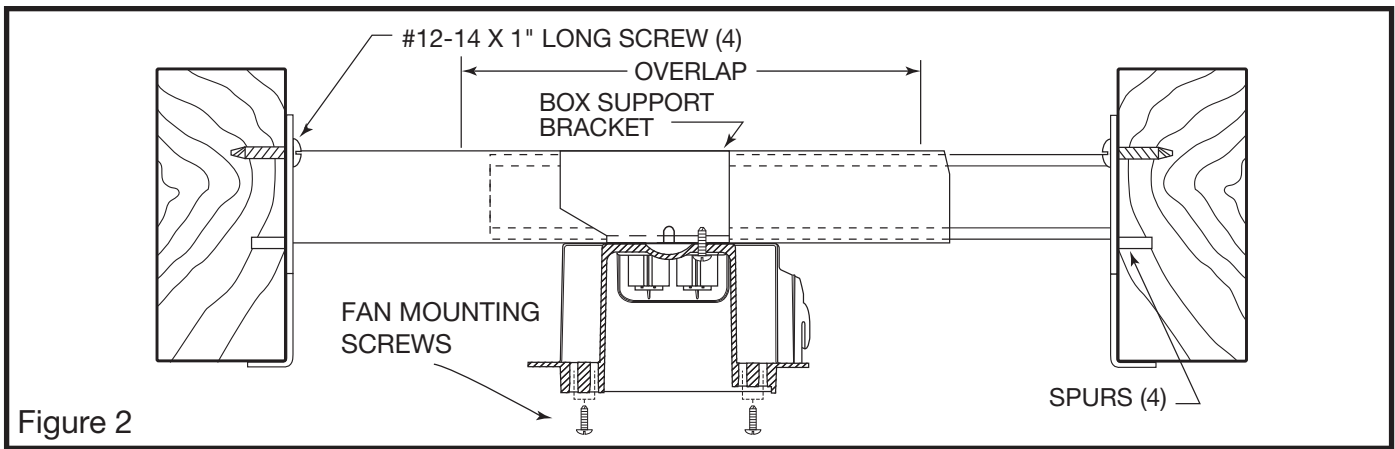

Figure 2
3. Using the holes in the end plates of the hanger as a template, drill (4) 7/64" diameter pilot holes 3/8" deep (MAX.). Use the wood screws provided and install securely through holes of the end plates. (See Figure 2).
**THE BOX SUPPORT BRACKET MUST BE POSITIONED WITHIN THE OVERLAP OF THE TWO CHANNELS (SEE FIGURE 2).**
- Drive the provided #8-32 x 3/4" fan mounting screws with lockwashers into each of the two holes through the box fastener (See Figure 2).
**WARRANTY:** Thomas & Betts sells this product with the understanding that the user will perform all necessary tests to determine the suitability of this product for the user's intended application. Thomas & Betts warrants that this product will be free from defects in materials or workmanship for a period of two (2) years following the date of purchase. Upon prompt notification of any warranted defect, Thomas & Betts will, at its option, repair or replace the defective product. Misuse, misapplication or modification of Thomas & Betts Products immediately voids all warranties.